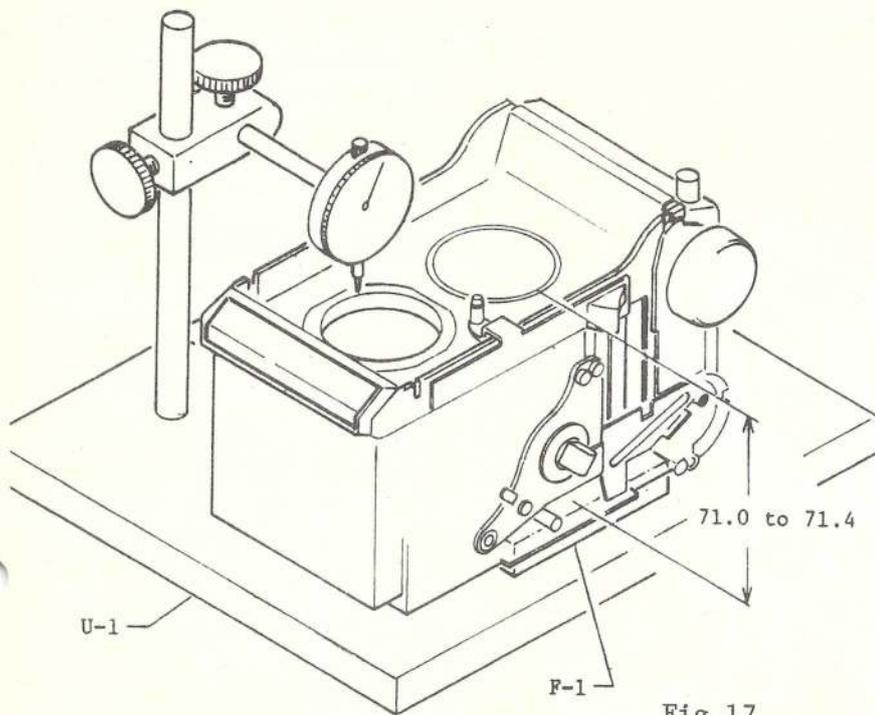

Fig. 17
- Confirm the body length shown in Fig. 17.